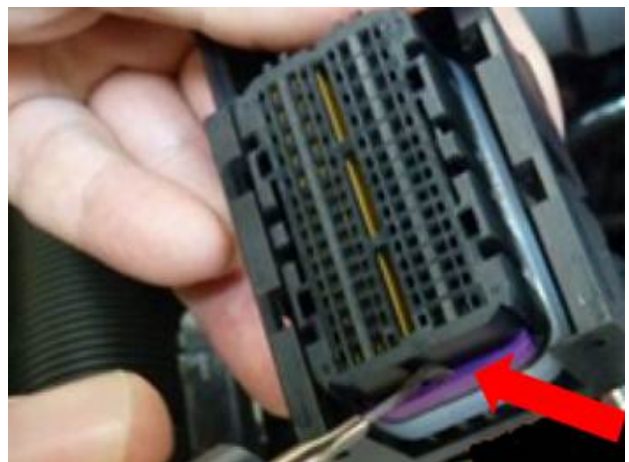

Figure 4. Removing secondary lock.
2. Use VAS 1978/17 or a small screwdriver to remove the secondary lock from the housing (Figure 4).